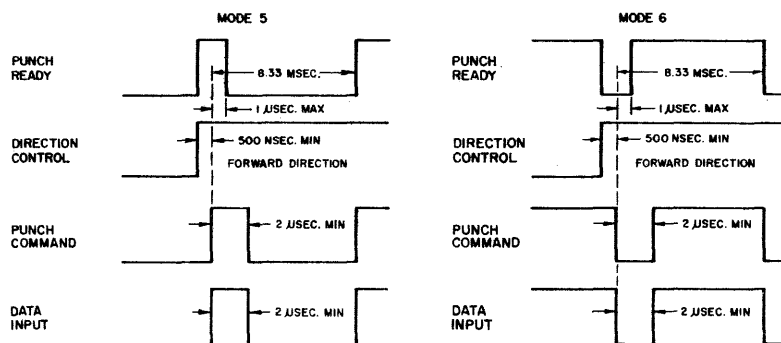

Figure 3-4. Timing Diagram, Perforator Section
Table 3-1 lists the input and output signals which are routed through J1 and J2. The definition and/or usage of these signals are also included in the table. Figure 3-4 shows the timing diagram for the perforator and Figure 3-5 shows the reader timing. Also see Note, Section 2.5.
In this mode of operation, the unit will punch feed holes and data holes at up to 120 cps in the forward direction under control of input signal lines. See Figure 3-4 for proper timing.
- g. Apply a forward signal  $+2.4 < V < +5.0$  or open circuit to the Direction Input Line at J1, pin 10. Direction input must be stable for 500 nsec., min., before the punch command is given (step h). See Figure 3-4.
- h. Apply a true (hole) signal to each pin (J1, pin 1 through J1, pin 8) for the desired tracks to be punched depending upon the mode. See Table 3-1 and and Figure 3-4. Data commands must be present at the time a punch command is initiated (step i) and must remain on the line for 2 usec. (min.) after the punch command input reaches the true level.
- g. Apply a reverse signal between 0V and +0.4V to the Direction Input line at J1, pin 10. Direction input must be stable for 500 n sec., min., before the punch command is given (step h). See Figure 3-4.